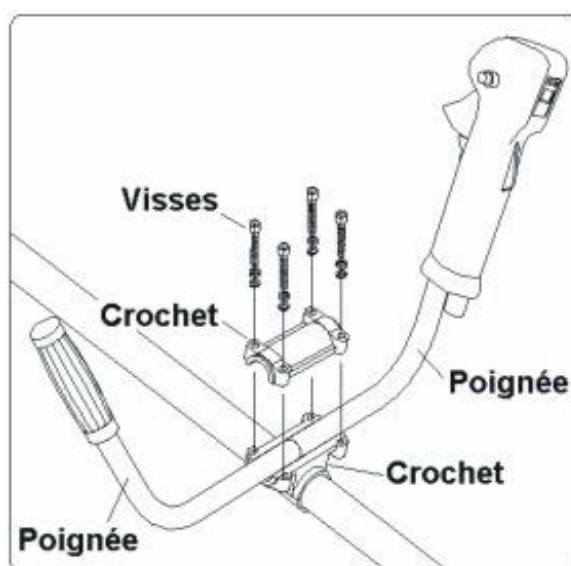

Fig.1
1) INSTALLATION DE LA POIGNEE (fig.1)